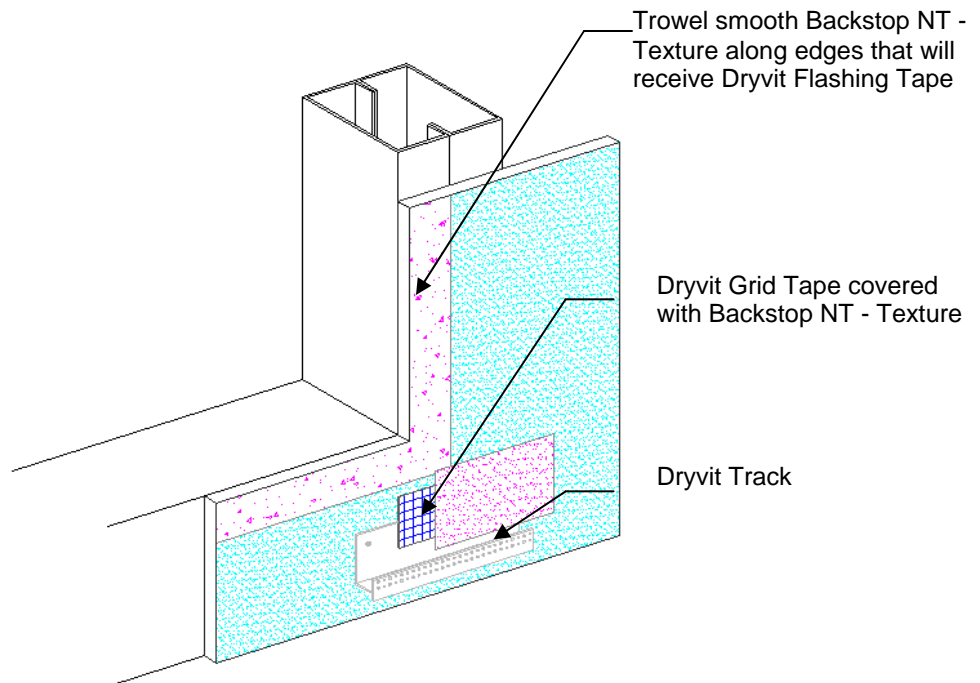

Figure 17
- d) While the Backstop NT - Texture is still wet, using a trowel or spatula, smooth out the Backstop NT - Texture around all window and door perimeters and other areas that will later receive Dryvit Flashing Tape - Figure 17.
- d) While Backstop NT - Texture is still wet, using a trowel or spatula, smooth out the Backstop NT - Texture around all window and door perimeters and other areas that will later receive Dryvit Flashing Tape – Figure 17.
- 1) General: Dryvit Backstop NT - Smooth can be applied using a roller or sprayed and back-rolled over the acceptable sheathing substrates. **NOTE: OSB sheathing requires that joints and fasteners be treated with Backstop NT – Texture. Two (2) coats of Backstop NT-Smooth are required for the field of the wall. Backstop NT Texture is not recommended for application in the field of the board.**